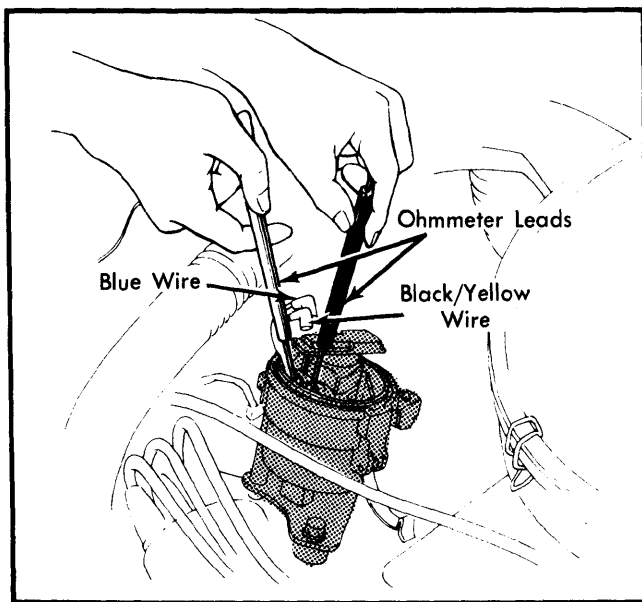

Fig. 6 Checking Continuity at Ignitor Terminals
8) If not, check wiring from ignition coil to ignitor, then check continuity between ignitor terminals. See Fig. 6. Set ohmmeter to x100 range. Attach positive lead to black/yellow wire and negative lead to blue wire. There should be no continuity.